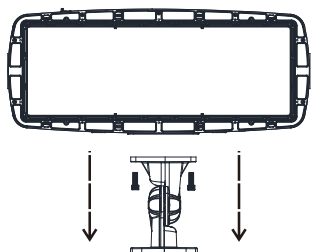

Figure 4
- Attach the TM bracket to the fixture with 4 bolts by aligning it with the opening at the bottom of the fixture. (Figure 4)